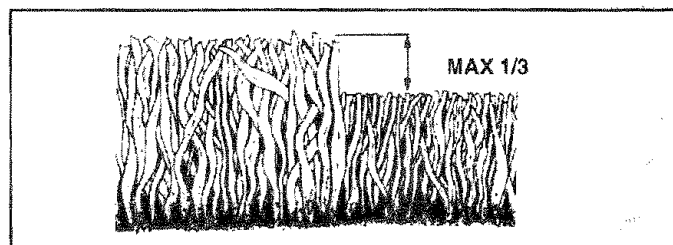

FIG. 7
- For best results, adjust the lawn mower cutting height so that the lawn mower cuts off only the top one-third of the grass blades (See Fig. 7). If the lawn is overgrown it will be necessary to raise the height of cut to reduce pushing effort and to keep from overloading the engine and leaving clumps of mulched grass. For extremely heavy mulching, reduce your width of cut by overlapping previously cut path and mow slowly.